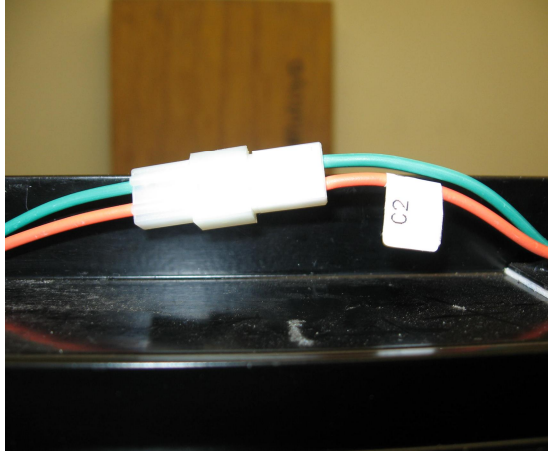

Figure 25
- 2) Disconnect the motor wiring harness at connection C2 (Figure25)
- 10) Reconnect the connection at C2 (Figure25)